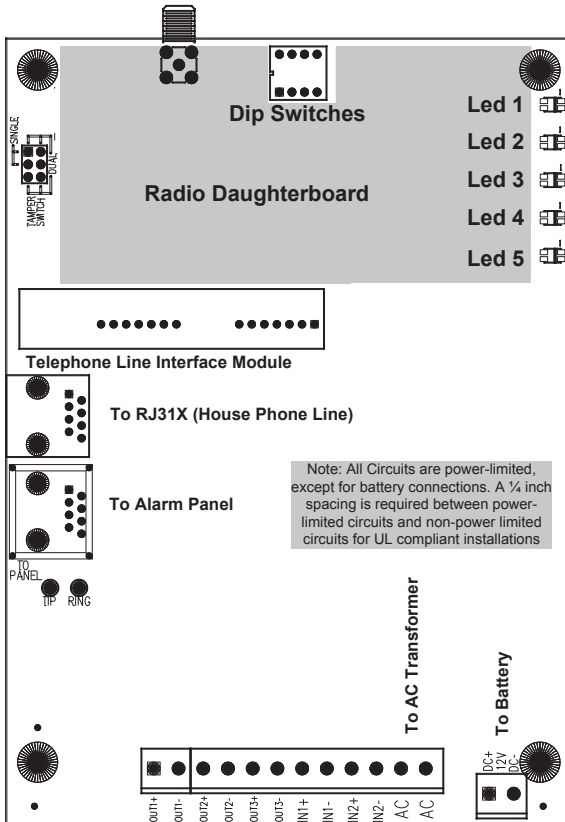

FIGURE 1: PARTS ON THE 4550 PC BOARD
3. Go to the red, 4-position Dipswitch as shown in Figure 1 and set the dipswitch as appropriate for this installation. (Table on page 15.)